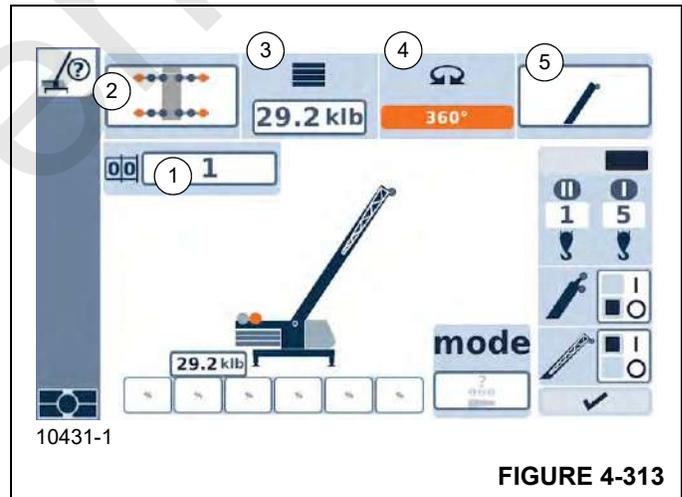
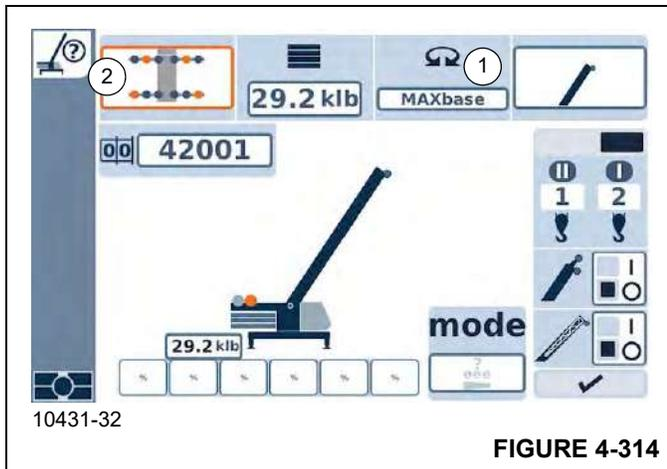

FIGURE 4-313
FIGURE 4-314
1. **Direct Rigging Code Entry** – operator enters the Rigging Code from the *Load Chart Manual* directly into the rigging code selection field (1), (Figure 4-313).
2. **Setup Wizard** – operator selects each individual component configuration (2 through 5, (Figure 4-313).
- MAXbase is a menu choice when programming the Swing Range selection field (1), (Figure 4-314).
- Unequal Outrigger Configurations are menu choices when programming the Outrigger Configuration selection field (2), (Figure 4-314).
For MAXbase operations the operator can either use the Direct Rigging Code Entry method and enter a MAXbase Load Chart Rigging Code into the Rigging Code selection field (1), (Figure 4-313) or use the Setup Wizard and select MAXbase in the Swing Range selection field (1), (Figure 4-314).
When entering a MAXbase Load Chart Rigging Code directly, all of the component configurations (2 through 5, (Figure 4-313) are automatically selected. When using the Setup Wizard and MAXbase is first selected in the Swing Range selection field (1), (Figure 4-314), the RCL system will then limit the Outrigger Configuration selection field (2), (Figure 4-314) to only MAXbase outrigger configurations. This limiting feature makes programming the RCL more efficient.